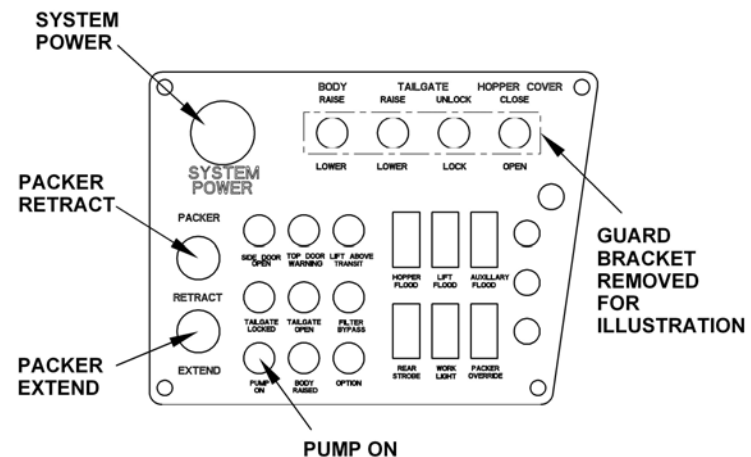

Figure 17. Push-Pull and Push-Button Switches
A. System Power – This red, illuminated push-pull switch activates the hydraulic system which is made up of Heil-installed electrical and hydraulic components. It has a large, red push-pull knob that the operator can use to quickly shut down the hydraulic system in an emergency (it is the equivalent of an Emergency Stop switch or E-Stop). The switch breaks the signals to the pump, which stops all hydraulic functions. It also sends a signal to the PLC that the switch is OFF and that prevents other functions from working. (The switch's light can be ON and the pumps are not on. There are other factors involved for turning the pumps on or off.) It has a label or marking of SYSTEM POWER. See Figure 17.
B. Hydraulic Pump – This red, illuminated push-button switch (marked or labeled PUMP ON) engages and disengages the hydraulic pump, which creates the hydraulic pressure for operation of the unit's hydraulic functions. See Figure 17.